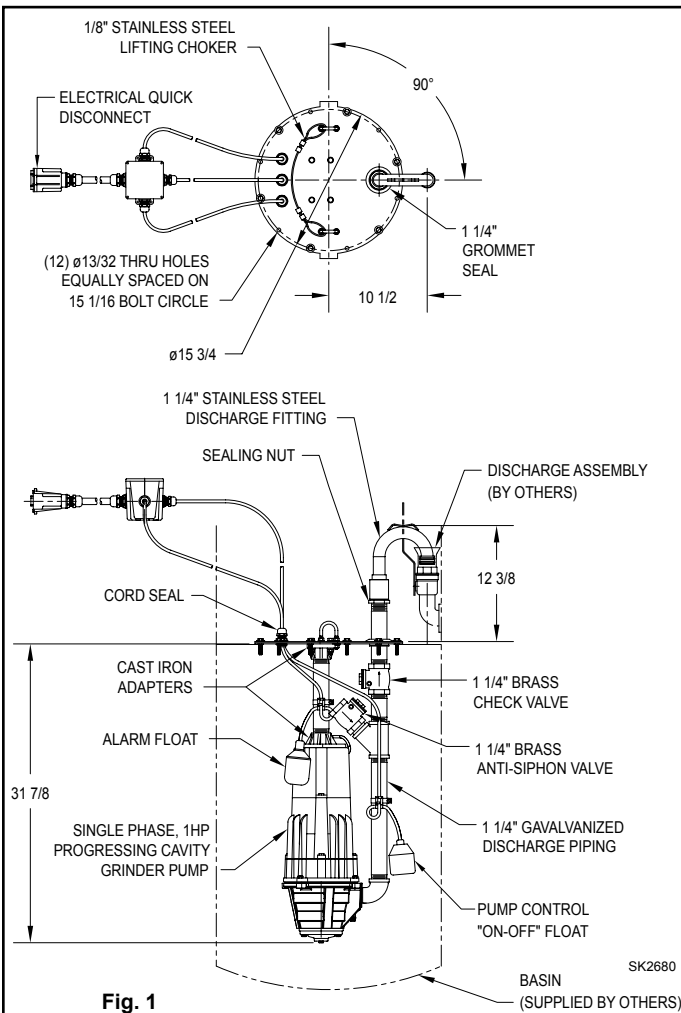

Fig. 1
8. Pump assembly will seat in positioning ears and gooseneck outlet will engage discharge assembly (see Fig. 1).